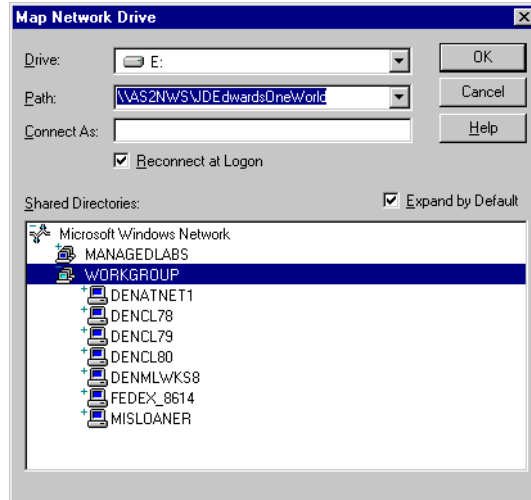

Figure 96. Map Network Drive on workstation
5. Select **Reconnect at Logon**. Your display should appear as shown in Figure 96 on page 238.